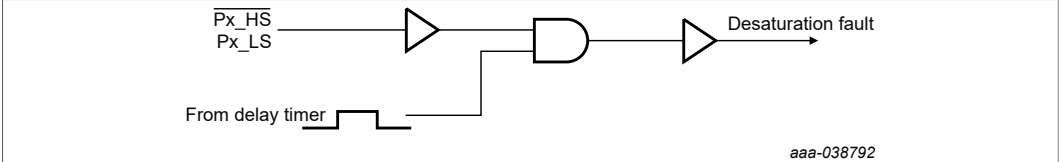

Figure 4. Desaturation blanking and filtering detail
- [16] Desaturation is measured as the voltage drop below VSUP, thus the threshold is compared to the drain-source voltage of the external high-side FET. See Figure 4.